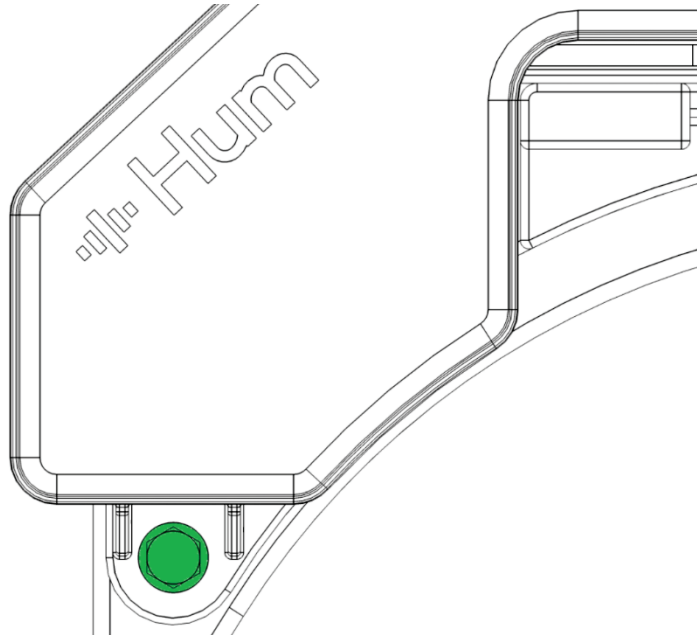

Figure 6
- 5.5.5. Use the Impact Driver with the Adapter and 5/16” Socket to install the two 10-24, 5/8” Long Screws through the front mounting tabs of the Boomerang into the bearing adapter. Shown in *Figure 6*.